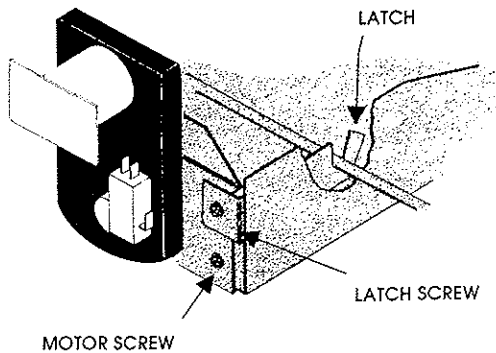

Figure 24
2. Loosen the latch screw until the latch drops out of the way. It is not necessary to completely remove the latch. See **Figure 24**.